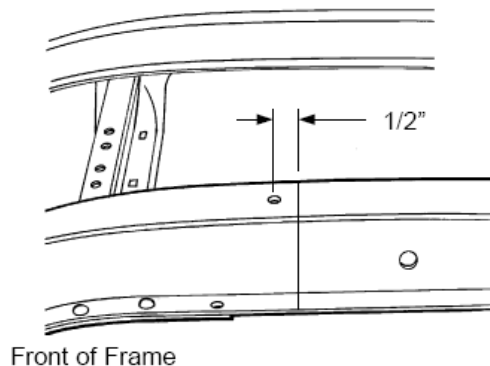

Figure 3- Axle Centerline
4. Remember that rubber snubber hole from Step 2? Using the center of those holes, make a mark on the frame 1/2" back. Now scribe those mark lines completely around the frame rails. Those scribed lines are the axle centerline for the new crossmember. See **Figure 3**.